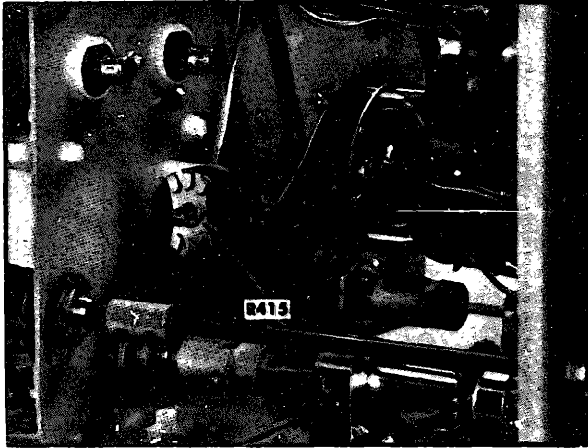

Fig 7-4 Location of R415
- d. Adjust-R415 for minimum trace shift as the TRIGGER SELECTOR switch is changed back and forth between CH 1 and CH 2 See Fig 7-4 for location